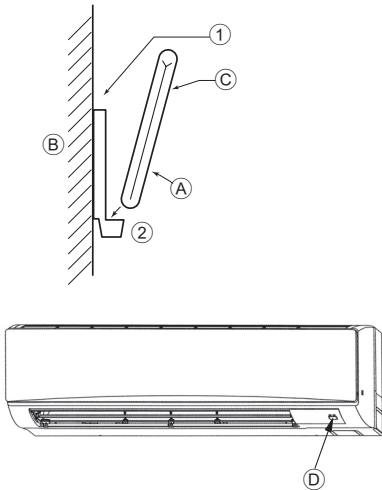
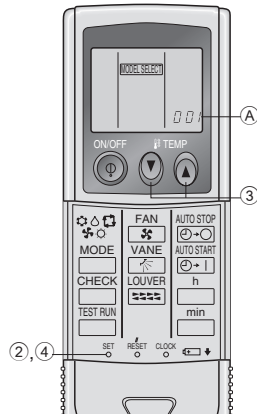

Fig. 6-2
Fig. 6-3
2) Installation method (Fig. 6-2)
- ① Attach the remote controller holder to the desired location using two tapping screws.
- ② Place the lower end of the controller into the holder.
3) Setting (Fig. 6-3)
- ① Insert batteries.
- ② Press the SET button with something sharp at the end. **MODEL SELECT** blinks and Model No. is lighted.
- ③ Press the temp \uparrow/\downarrow button to set the Model No.
- ④ Press the SET button with something sharp at the end. **MODEL SELECT** and Model No. are lighted for three seconds, then turned off.